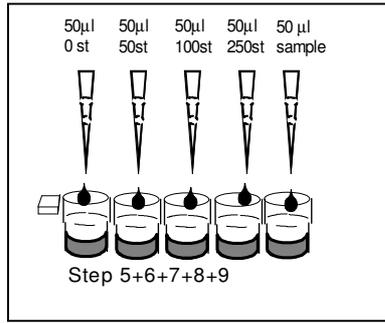

Fig. 2 Sampling procedure
5. Add 50 μ L of Standard 1, 0 nmol/L to the first well. (see fig. 2)